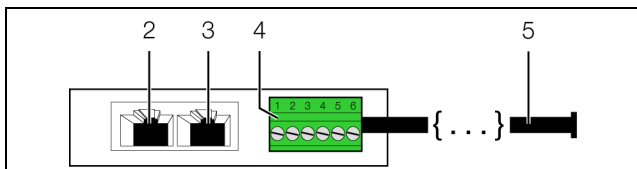

Fig. 2: Rear of the leak sensor
- Connect the sensor cable connector to the universal interface (fig. 2, item 4).
- Use a CAN bus connection cable to connect the leak sensor to a CAN bus interface on the CMC III Processing Unit or the neighbouring component on the CAN bus (fig. 2, item 2).
- If necessary, connect another component (e.g. another sensor type) to the second, free CAN bus interface of the leak sensor (fig. 2, item 3).